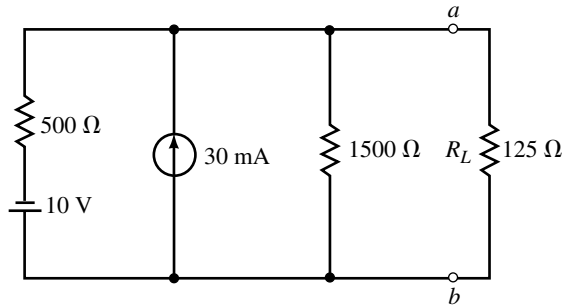

FIGURE 9–106
48. Repeat Problem 45 for the circuit of Figure 9–106.